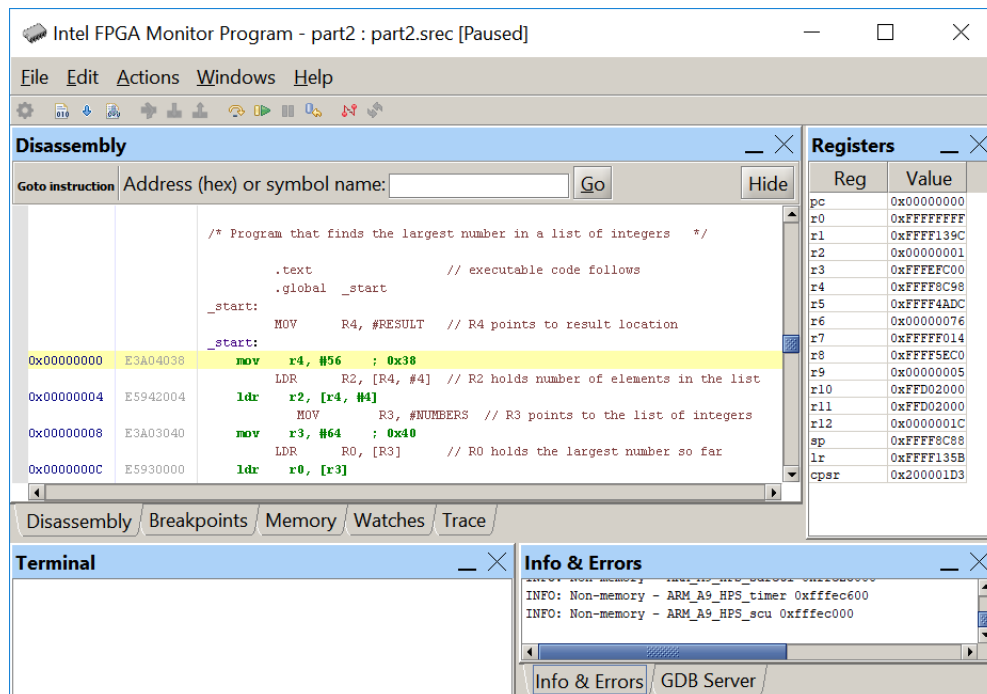

Figure 10: The disassembled view of the program in Figure 9.
3. Compile and load the program. Monitor Program will display a disassembled view of the machine code loaded in the memory, as indicated in Figure 10.